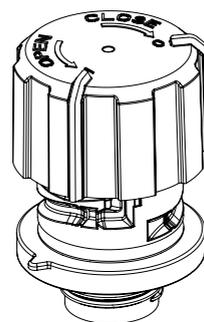

Fig.5
- 7) By turning the cover following the OPEN arrow (anticlockwise), from breather closure it is possible to remove the cover from the threaded connector after the click, thus allowing the operator to clean the components or to substitute the "tech-foam" filter (Fig. 5).